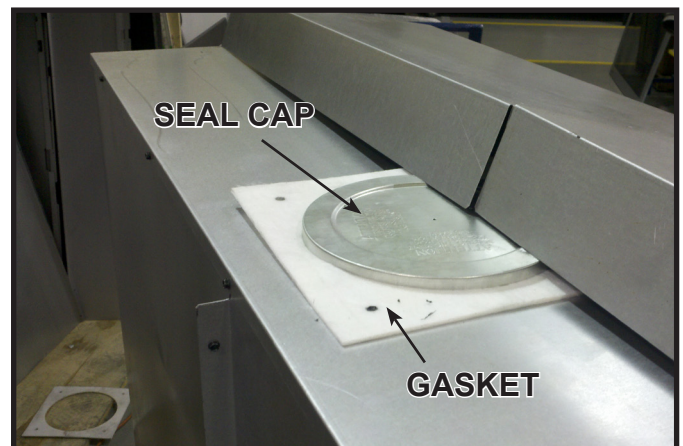

Figure 6.2 Seal Cap and Gasket Location
2. Remove seal cap from top of appliance by removing one screw, which is included, to prevent construction material from getting into appliance. Remove seal cap when pipe installation phase begins. See Figure 6.2.